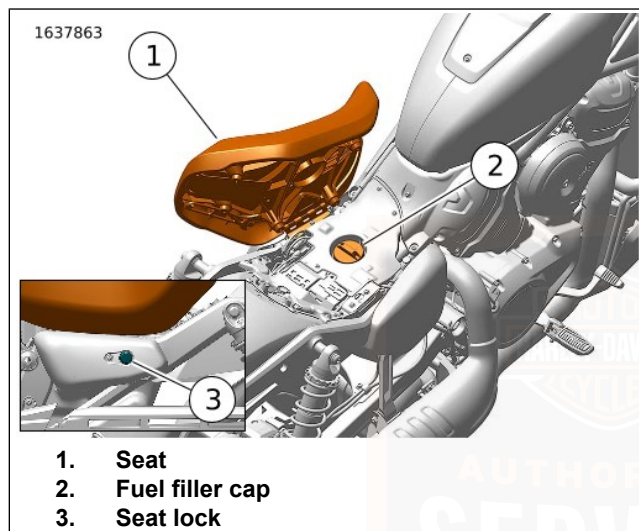

Figure 12. Fuel Fill (Under Seat Fuel Tank)
1. See Figure 12. Unlock seat.
2. Lift seat (1) to access fuel cap.
3. Turn fuel cap (2) counterclockwise to remove. The cap turns approximately three-quarters of a turn before it begins to loosen.